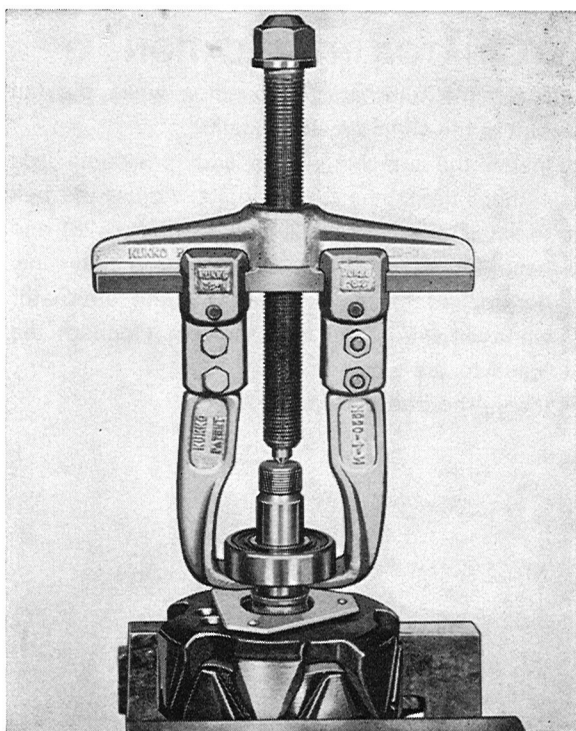

Fig. 3-40. Bearing removal
2. Pull the bearing with a claw puller, see Fig. 3-40.